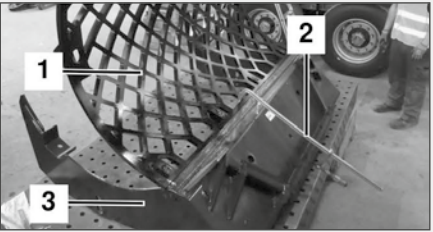

Fig. 6: Replaceable rear basket grid and replaceable rear basket grid holder held together with screw clamp
7. Hold replaceable rear basket grid (fig. 6/1) and replaceable rear basket grid holder (fig. 6/3) together using a screw clamp (fig.6/2).